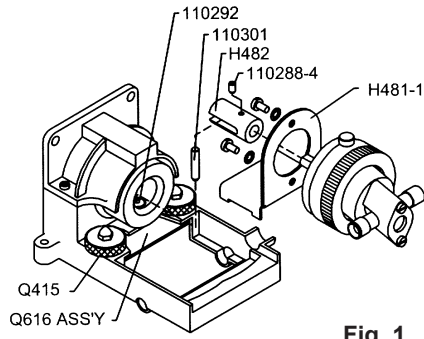

Fig. 1
6. **ADAPTING RH PUMP HEADS TO STANDARD Q PUMP DRIVE MODULES.** (refer to figs. 1,7c) The RH/Q Kit adapts the RH pump heads to standard Q Pump Drive Modules. Assemble as follows:
a) Assemble Kit parts to RH pump head as shown (fig. 1) with “shoe” of part H481-1 down. Slip COUPLING H482 fully onto pump shaft, with its slot away from pump head and SET SCREW 110288-4 contacting the flat on the pump shaft.